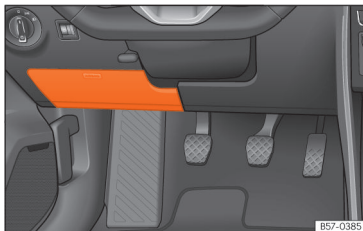

Fig. 196 On the dashboard on the driver side: lid of the fuse box.
- *Open*: fold the cover down >>> Fig. 196.